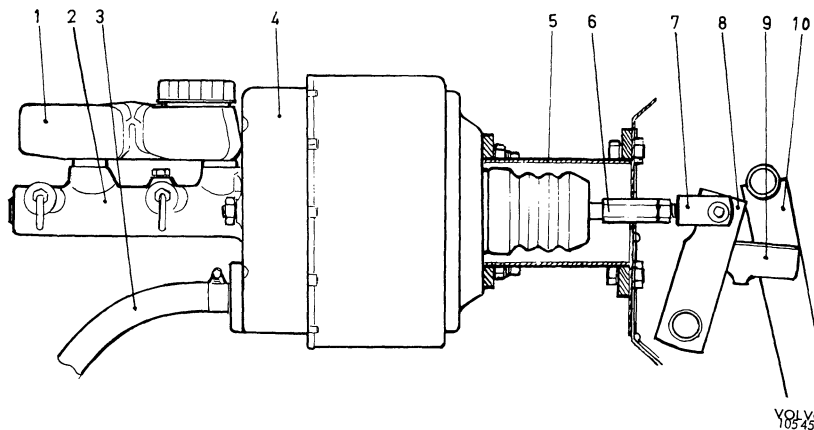

Fig. 5-75. Brake parts
3. Unscrew the locknut and screw out the yoke (7, Fig. 5-75).